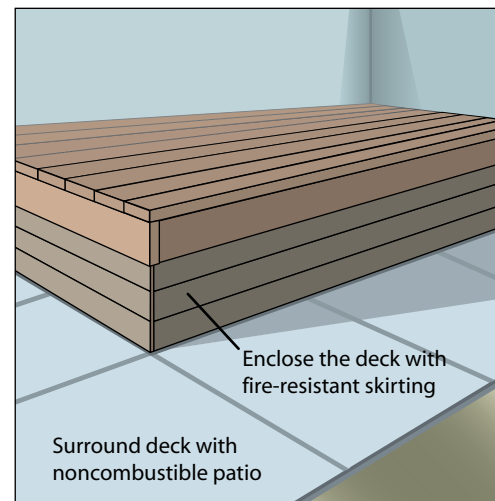

Figure 2. Deck isolated by a patio.
- Isolate the attached structure by surrounding it with noncombustible material such as gravel, brick, or concrete pavers to prevent vegetative growth and reduce fuel in a wildfire (see Figure 2).
- Enclose the underside of the deck with fire-resistant skirting that acts as a shield against embers and reduces the probability that radiated and convected heat will ignite the deck (see Figure 2).